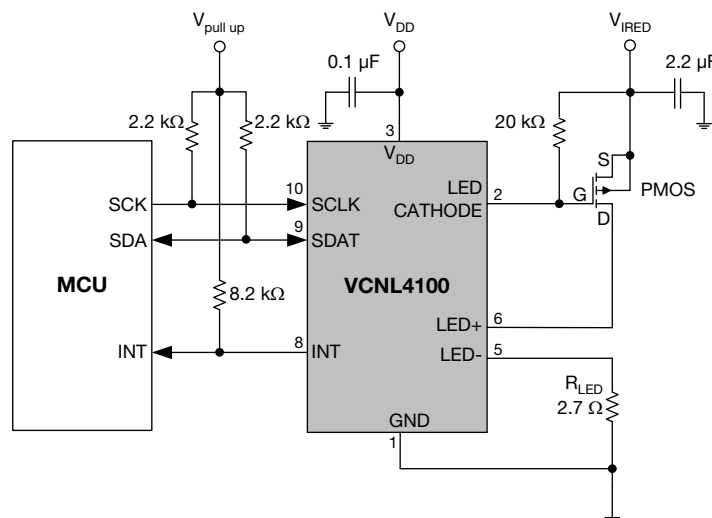

Fig. 10 - Application Diagram
- (1) Light source: white LED
- (2) Maximum detection range to ambient light can be determined by ALS refresh time adjustment. Refer to table 17 "ALS Resolution and Maximum Detection Range"
- (3) Based on IRED on / off duty ratio = 1/5120, 1/640, 1/80, and 1/20. The circuitry should use an external MOSFET as shown with fig.10. Please see also the Application Note "Designing the VCNL4100 into an Application" (www.vishay.com/doc?84361).